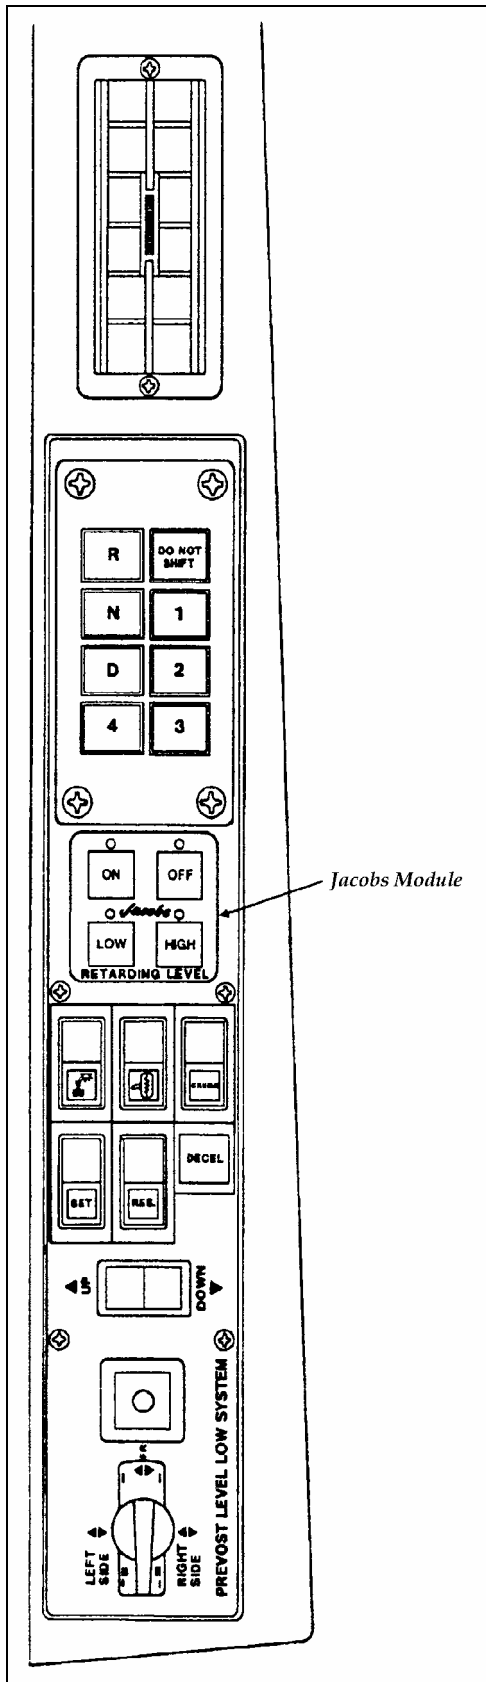

FIGURE 1
1. In the driver's section, locate the “Jacobs” engine brake control module on the L.H. side lateral control panel (Refer to figure 1).